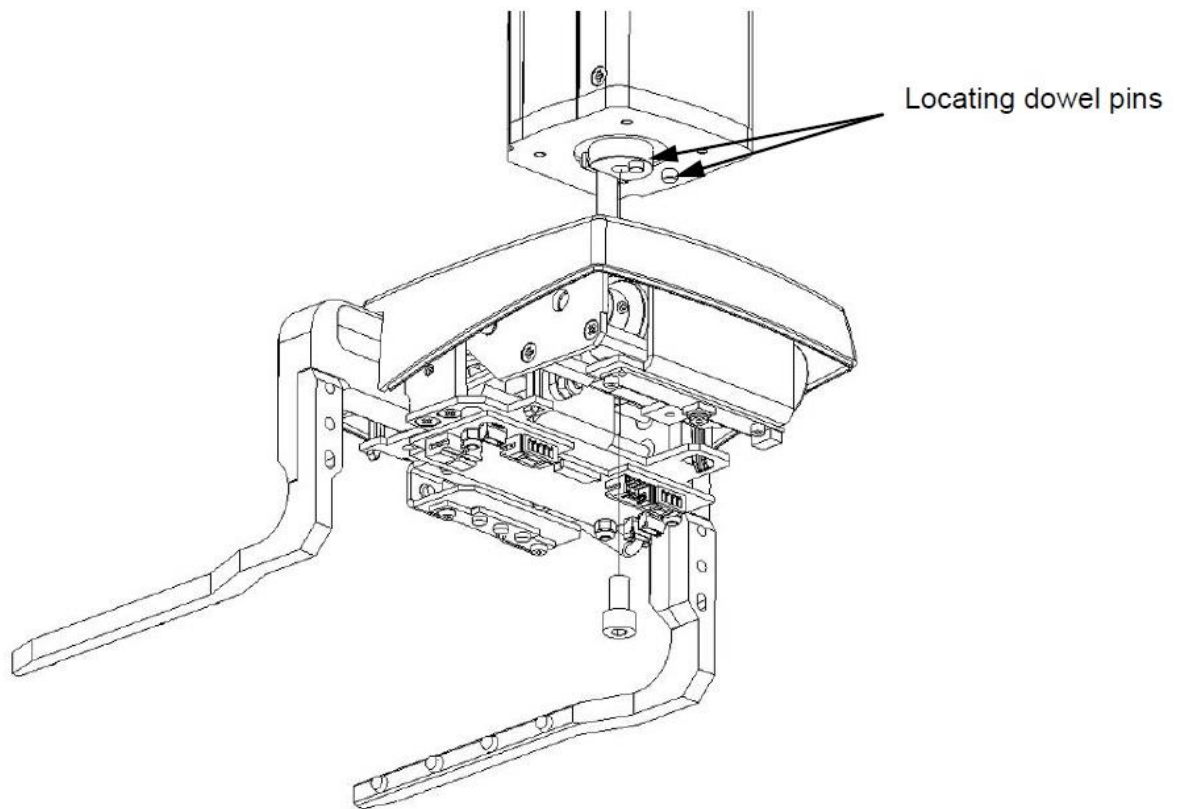

Figure H-3: Removing the Gripper from the Arm
3. Remove the M5x10 SCHS holding the gripper to the arm (Figure H-3).